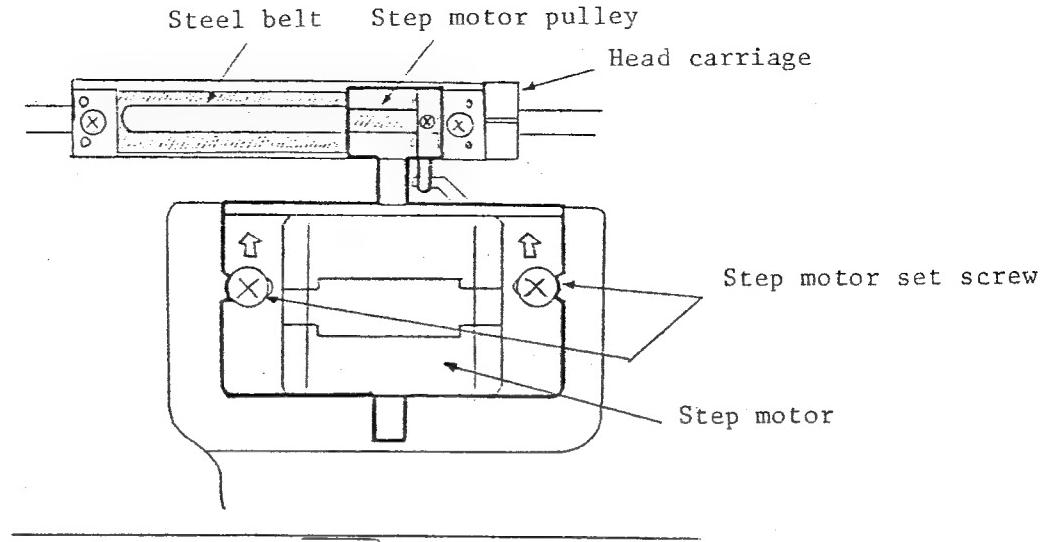

Fig. 4.22 Step Motor
(2) Disassembling
(3) Assembling
- (a) Mount the step motor with the set screws. At this time, press it in the arrowed direction (Fig. 4.22) and hold it temporarily.